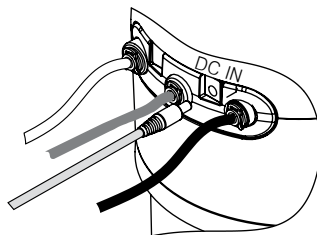

Fig. 12
- Insert the plug of the power supply into the outlet, and the plug from the power supply into the socket in your RO-206S unit (Fig. 12).